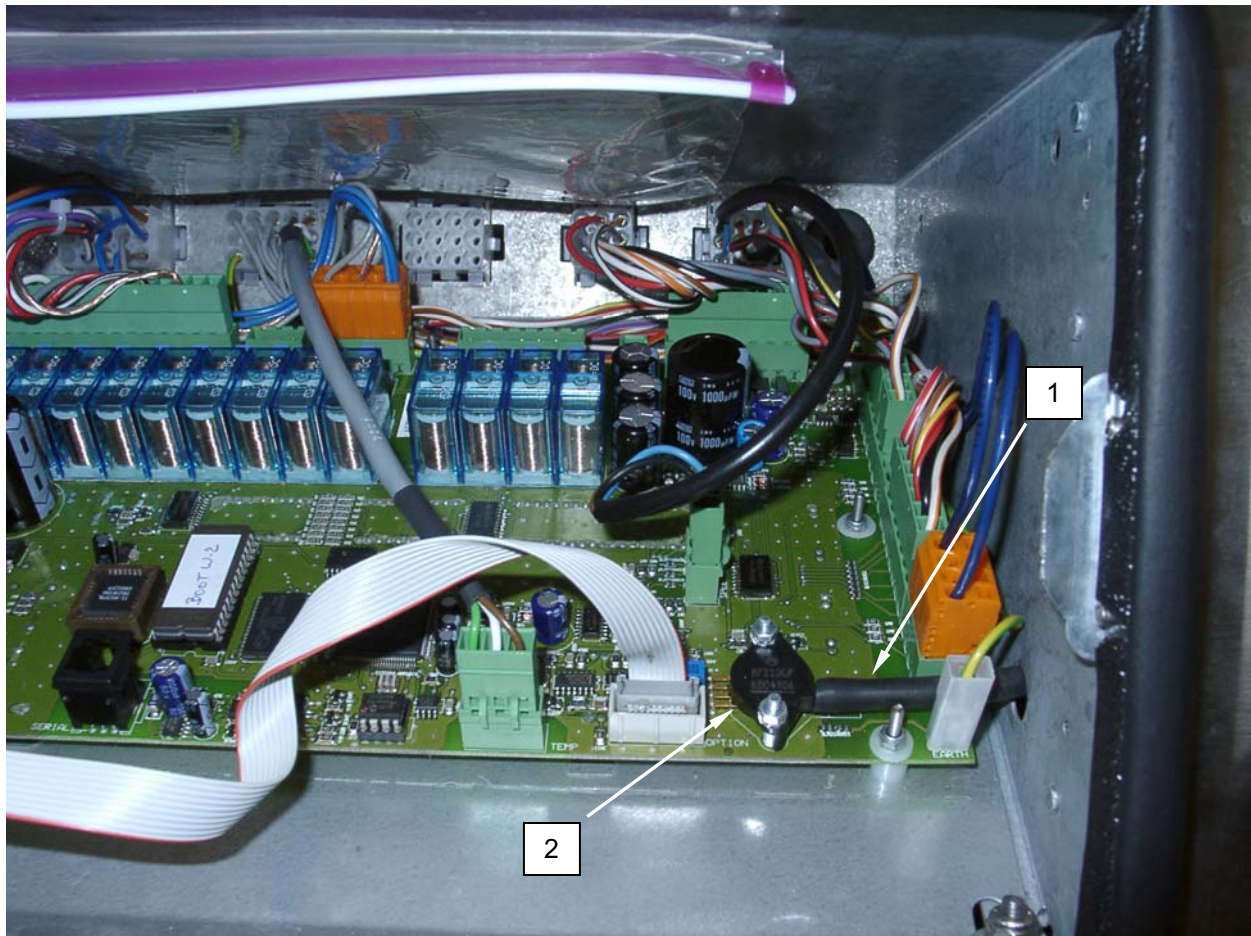

Figure 2. Clean the Level Sensing Tube.
3. Disconnect level sensing tube (**Figure 2, Item 1**) from level sensor (**Figure 2, Item 2**).
4. Use compressed air to clear level sensing tube (**Figure 2, Item 1**).
5. Reconnect level sensing tube (**Figure 2, Item 1**) to level sensor (**Figure 2, Item 2**).